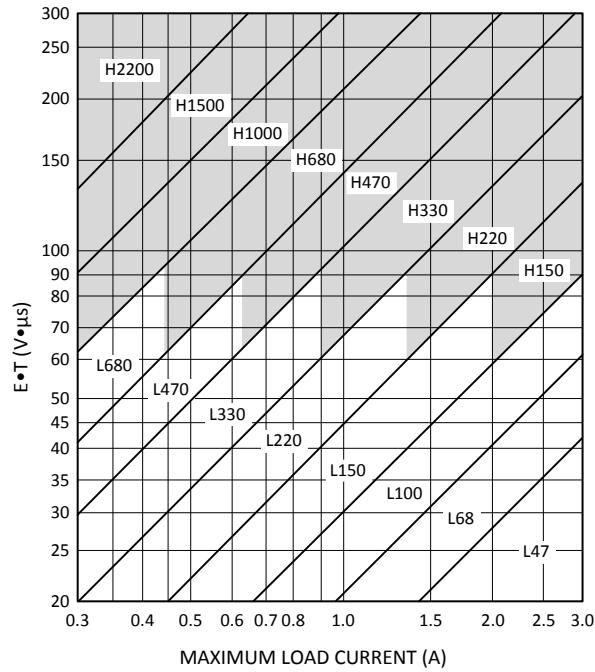

Figure 25. LM2576-ADJ
2) Use the  $E \times T$  value from the previous equation and match it with the  $E \times T$  number on the vertical axis of the Inductor value selection guide shown in Figure 25.